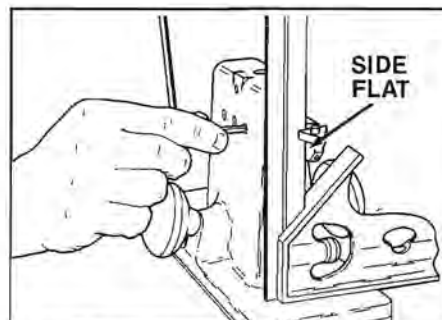

Figure 2. Align the cutter support.
cutter support (58). Place an accurate combination square (58) against the base (37) and one of the cutter support side flats. Adjust the cutter support so the side flat is against the square. Tighten the two cutter support setscrews (43). (See Figure 2.) Replace the follower support on the follower upright and reposition the cutter guide.